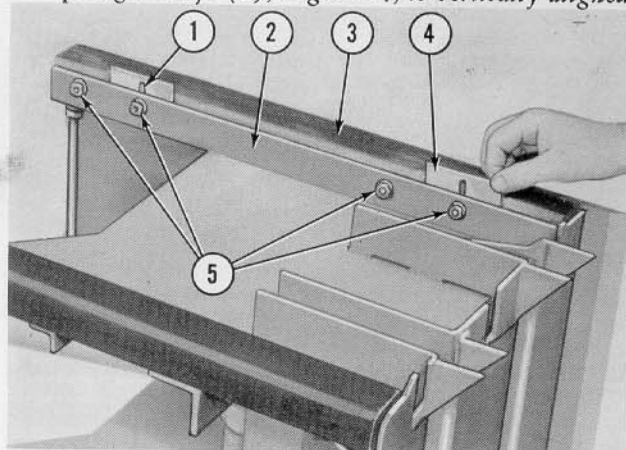
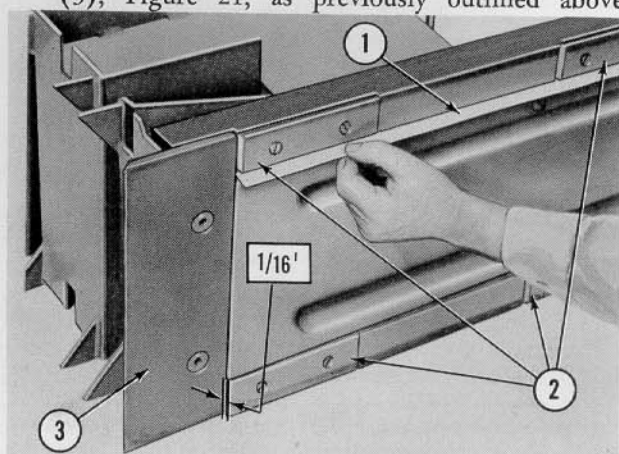

Figure 23
Figure 24
- To eliminate horizontal side play, loosen the nuts (see 5, Figure 23) on the bolts in the upper and lower right runners. Insert shims (1) and (4) (Part No. 147275) between the mounting angles (2) and runners (3). When properly shimmed, the metal wear plates (2), Figure 24, on the runners should extend approximately $\frac{1}{16}$ inch beyond the plunger knife (3) as shown.
NOTE: Check to be sure that the face of the plunger knife (3), Figure 24, is vertically aligned
- To eliminate vertical play in the plunger, loosen the retaining nuts in all four runners and insert shims (Part No. 148288) as shown at (1), Figure 24. Proper clearance between the top of the plunger runners and the upper wear strip in the bale chamber is approximately $\frac{1}{16}$ inch. The clearance between the plunger face and the top of the bale chamber should not exceed $\frac{3}{16}$ inch.